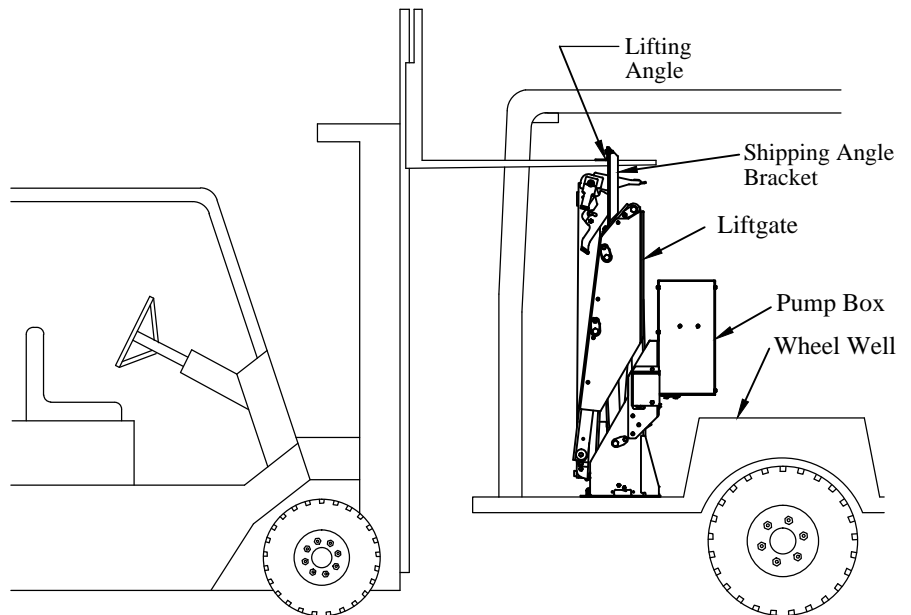

Figure 10: Lifting angle.
1. **Lift** the liftgate by the lifting angle with a fork truck (Figure 10).